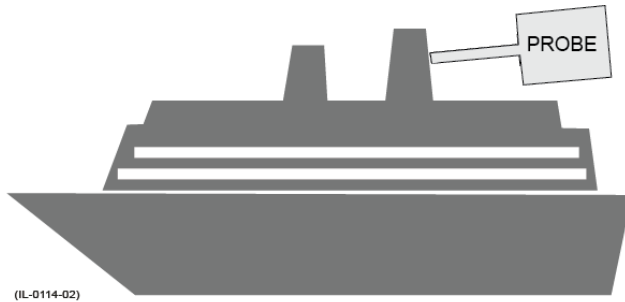

Figure 10 Probe (blow-up) location on vessel
- a) Make sure the location for the installation is according to Figure 10 (recommended location is in longitudinal ship direction.) Inside installation is preferred; for outside installation the probe must be insulated sufficiently.